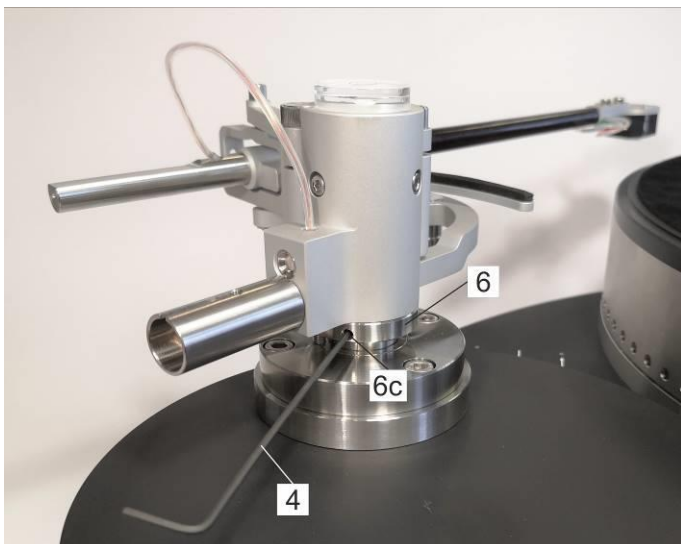

Figure 15
- f) Fix the screw [6c] on the other side of tonearm body [6] with hex (allen) key [4] (Figure 15).